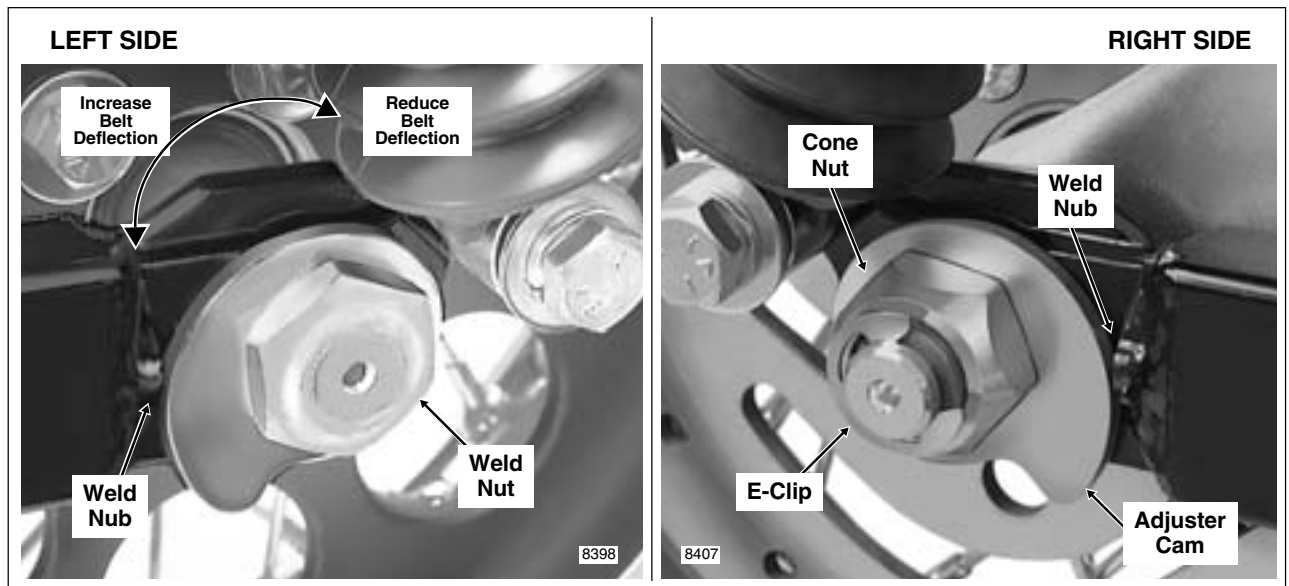

Figure 1-13. Move Rear Wheel Forward Until Adjuster Cams Just Contact Weld Nubs
5. Standing on right side of vehicle, remove E-clip from groove at end of axle. Loosen cone nut, and then snug to 15-20 ft-lbs (20-27 Nm). See Figure 1-13.
- c. Push wheel forward slightly so that adjuster cam just contacts weld nub on both sides of rear swing-arm. See Figure 1-13.